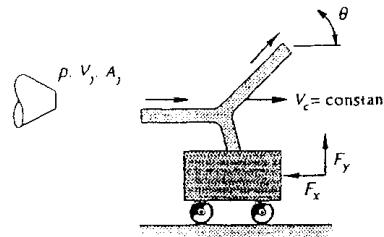

Fig. P3.55
- 3.55** In Fig. P3.55 the jet strikes a vane which moves to the right at constant velocity  $V_c$  on a frictionless cart. Compute (a) the force  $F_x$  required to restrain the cart and (b) the power  $P$  delivered to the cart. Also find the cart velocity for which (c) the force  $F_x$  is a maximum and (d) the power  $P$  is a maximum.